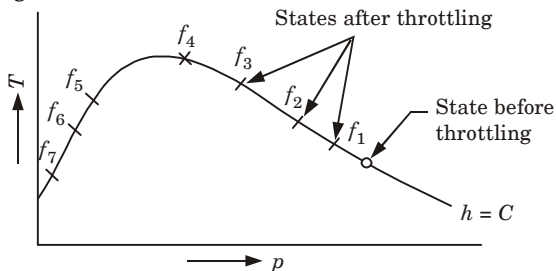

Fig. 9. Isenthalpic states of a gas.
4. By operating the valve manually, the gas is throttled successively to different pressures and temperatures $p_{f1}, T_{f1}; p_{f2}, T_{f2}; p_{f3}, T_{f3}$ and so on. These are then plotted on the T - p coordinates as shown in Fig. 9.